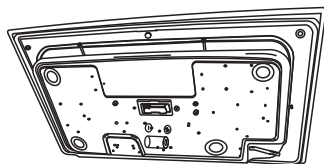

Fig.8
* Battery Box is located at bottom of casing (Size C, 1.5V DC) (Fig.8)